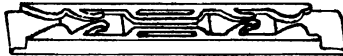

Figure 15
4. If a plastic card edge guide (Figure 15) is not already present on the front wall of your computer, install the one included with Captain. The card edge guide will hold the front edge of the board in place.